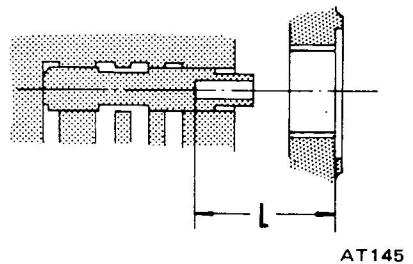

Fig. AT-77 Measuring the distance "L"
13. Check the length "L" between case end to rod end of vacuum throttle valve fully pushed in. Then select adequate diaphragm rod corresponding measured length. See Figure AT-77.